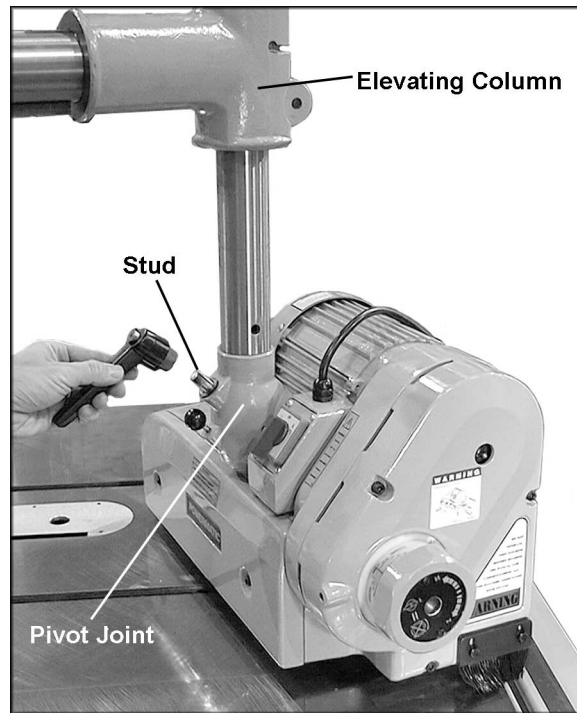

Figure 6
16. Mount the stock feeder to the elevating column by sliding the stud of the stock feeder into the hole of the pivot joint (Figure 6). Install the remaining flat washer and handle onto the stud, and tighten the handle.